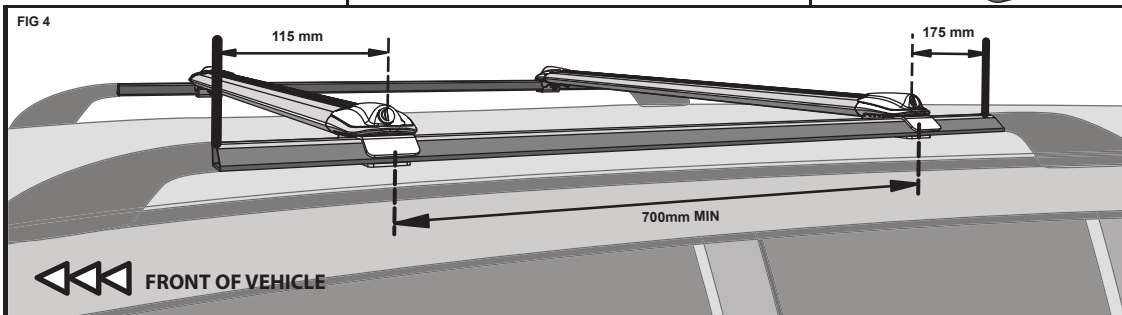

FIG 5
6. Place Bottom Strap under the Top Strap with the Tab facing inward and upward (Fig. 5). While holding the Bottom Strap in place loosely fit the Star Head Bolt with Key provided. Fit each corner in this manner. Check that the Cross Bars are centrally located between the vehicles Rail Bars.